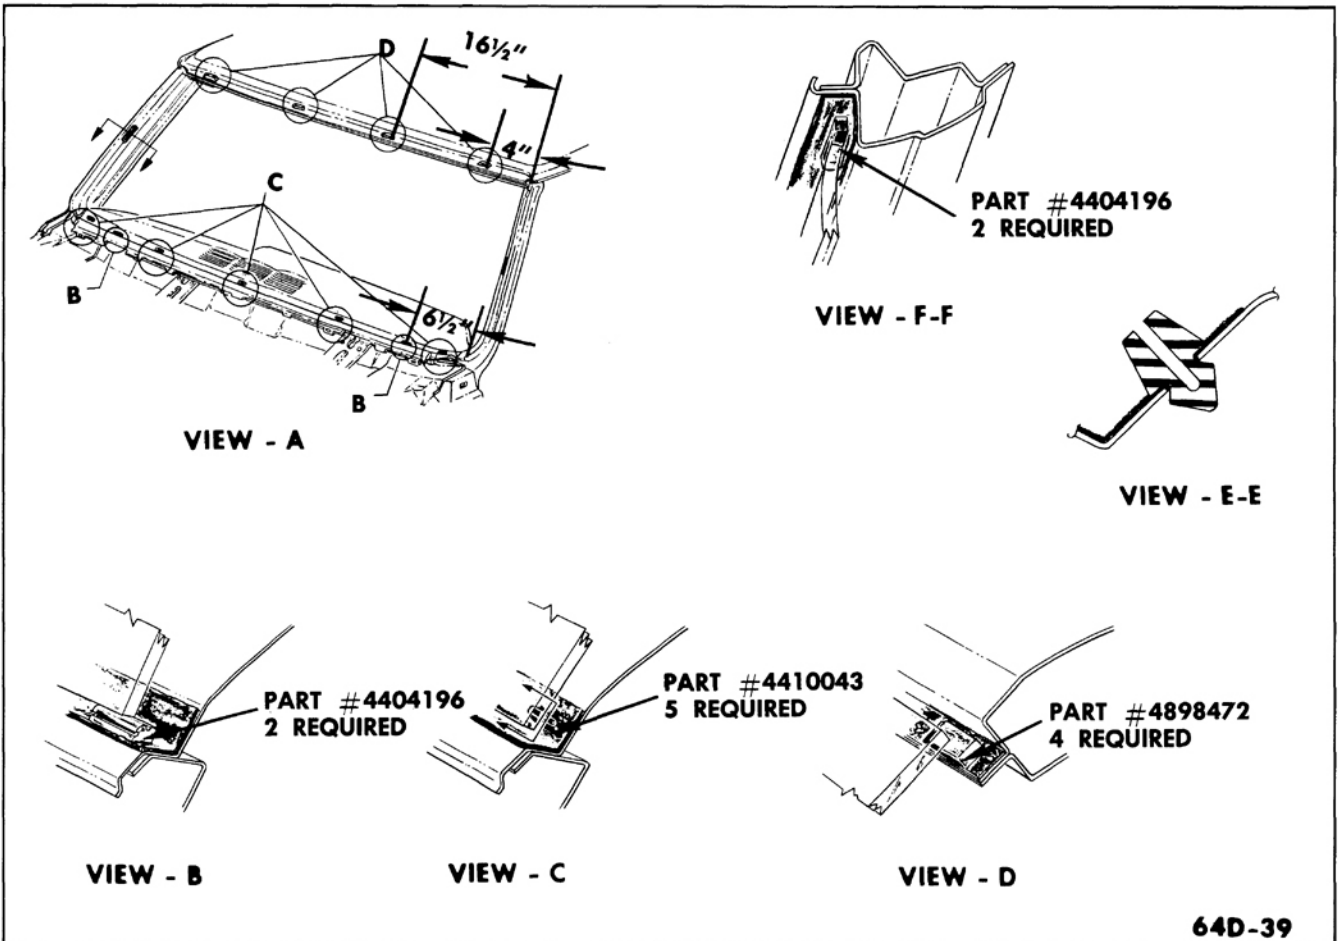

Fig. 16-308 Windshield Glass Spacers
4. Inspect all spacers for damage. If replacement is necessary, refer to Fig. 16-308.
4. Cement four flat type rubber spacers Part No. 4898472 to upper windshield pinchweld flange, one each side 4" inboard from windshield pillar and one each side 16-1/2" inboard from windshield pillar at locations "D", View "A". (Fig. 16-308)
5. Cement two rubber spacers Part No. 4404196 to lower rabbet of windshield opening 6 1/2" inboard from windshield pillars at locations "B", View "A". (Fig. 16-308)